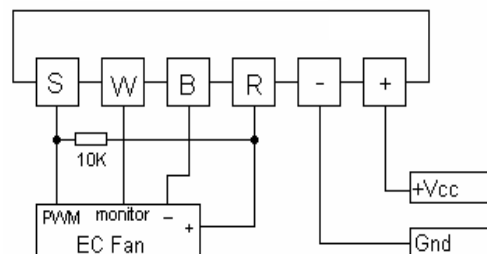

Fig 2
2. The output of the 'S' channel is an open collector signal. Some fans require o/c signal and some fans require TTL input. If TTL signal is needed, then the use of a pull up resistor (shown in fig. 2) is required. This should be connected between the positive fan supply (pin R) and the fan input speed control (pin S).